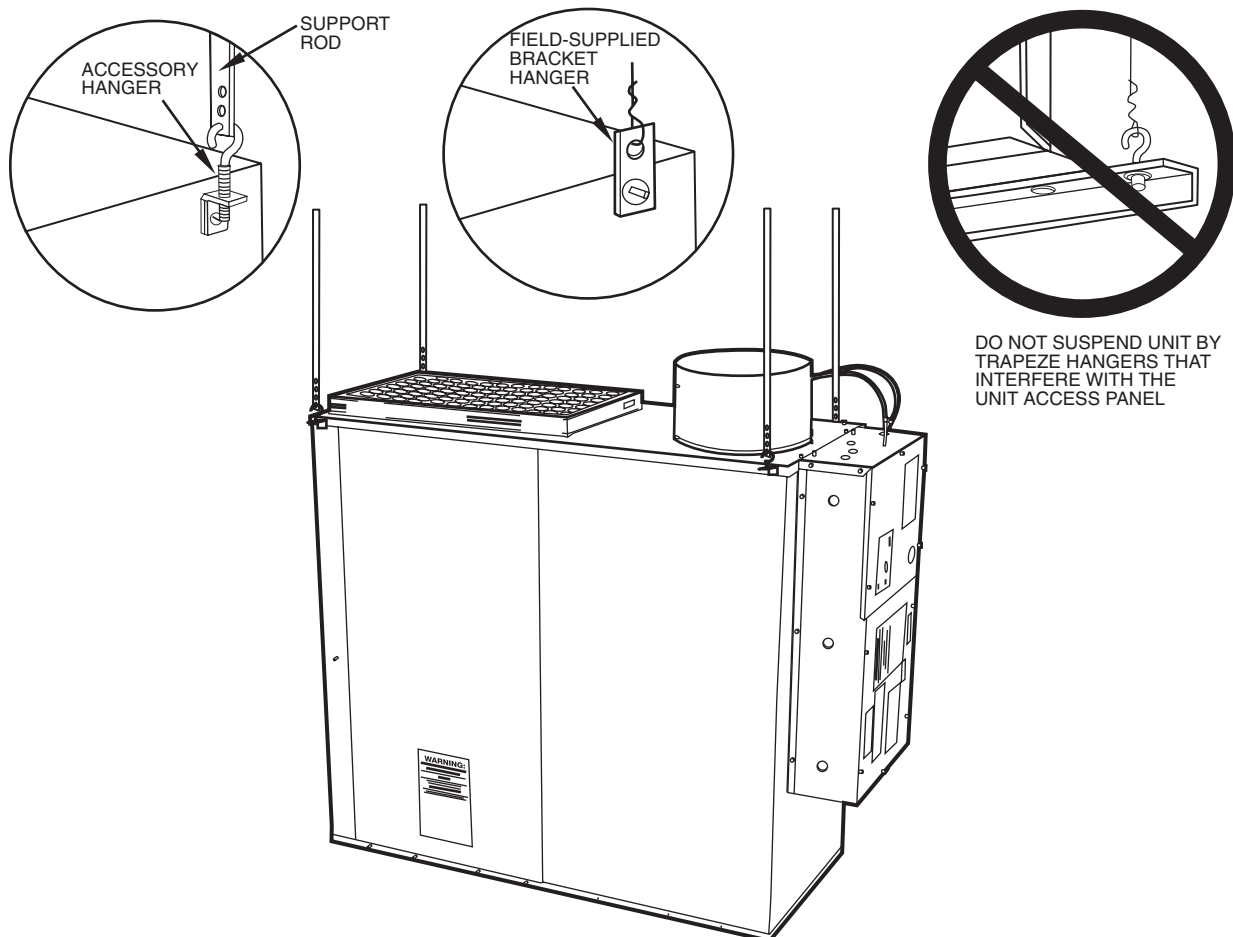

Fig. 13 — Typical 45XC Support Methods
1. Install field-supplied eyebolts, straphangers or bolt rod supports as desired. Figure 13 illustrates possible 45XC unit suspension methods. A typical underfloor installation is shown in Fig. 14.